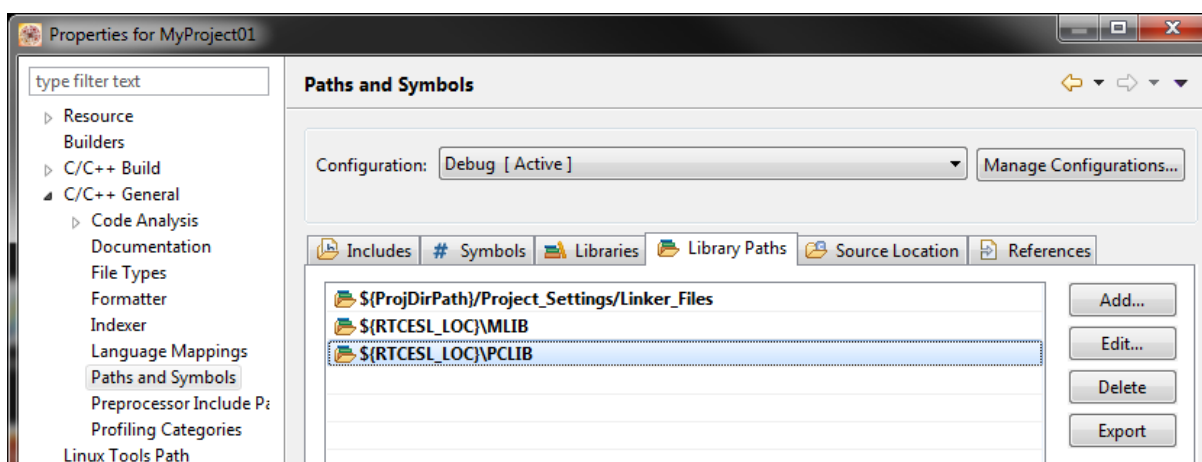

Figure 1-12. Library paths
3. In the right-hand dialog, select the Library Paths tab. See Figure 1-12.
8. Click OK, and the will be visible in the list. See Figure 1-12.